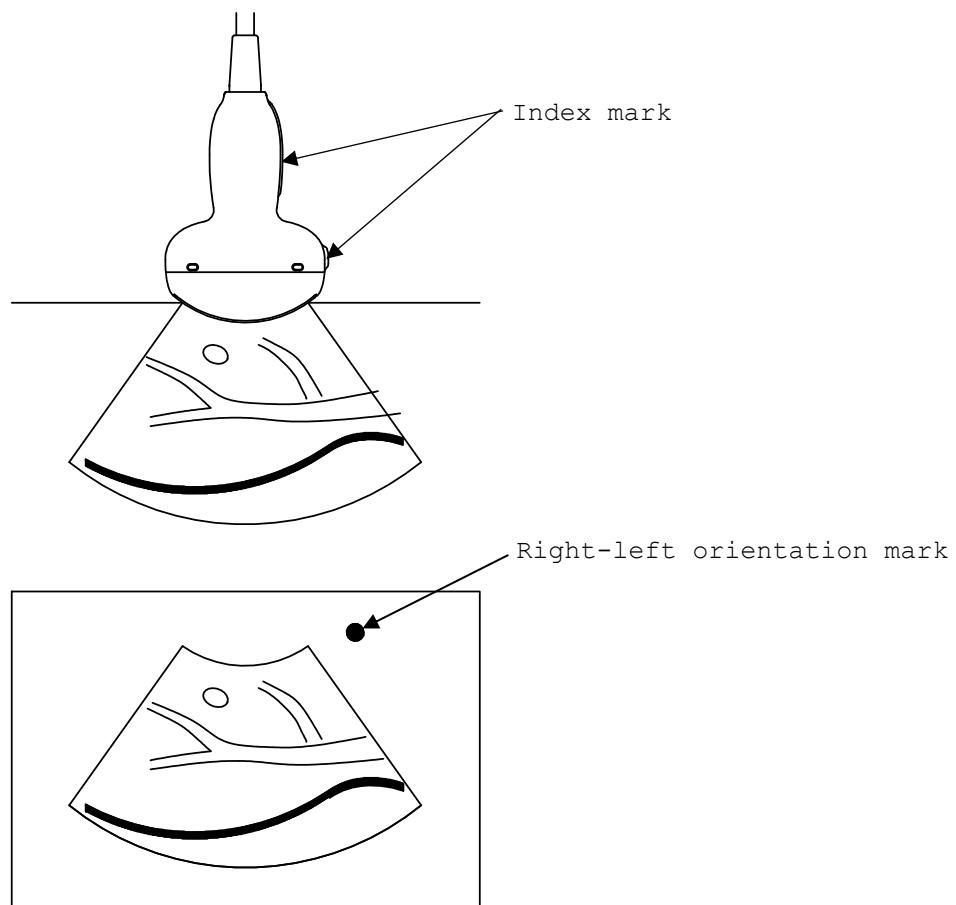

Fig.2 Relationship between the directions of the probe and the Right-left orientation mark
- 3) Confirm the direction of the probe. The relationship between the direction of the probe and image is shown in Fig.2. The Right-left orientation mark on the image indicates the direction of the index mark of the probe.